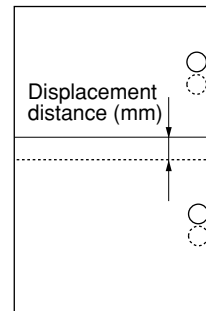

Figure 1-5-7
- When the punch hole is displaced toward the machine rear (Figure 1-5-7), shift the retainer toward the machine front (⬅).